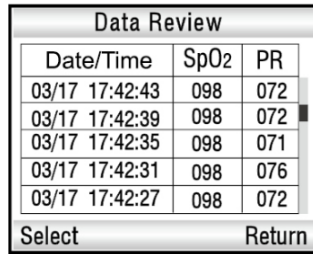

Fig.6-3
Pick and enter the "Data Review" sub-item, the screen as shown in Fig.6-3 will appear. You can move the rolling bar to view all the records that have saved in the unit by pressing the Up or Down button.
**Note: Only in the interface of Data Review as shown in Fig.6-3 the data can be printed.**